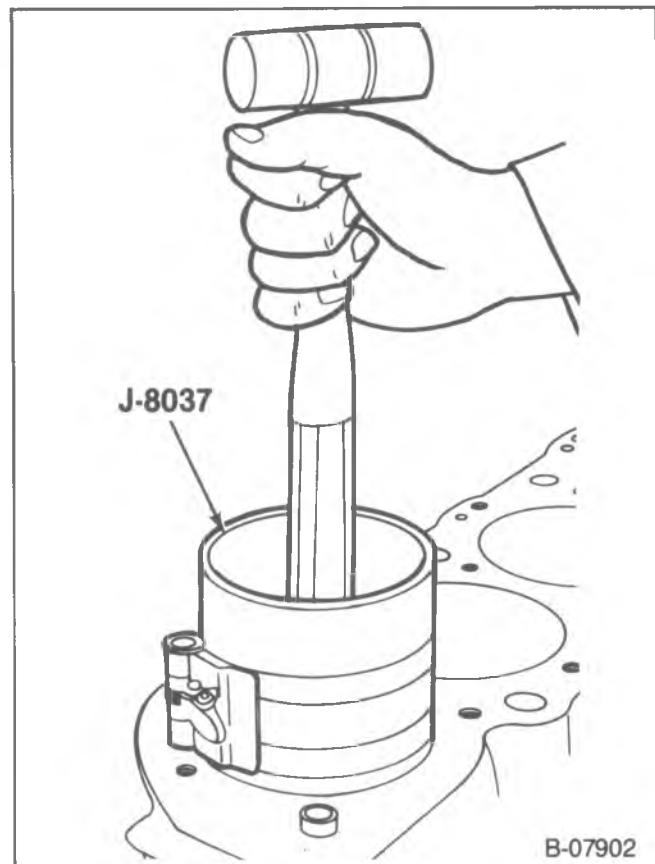
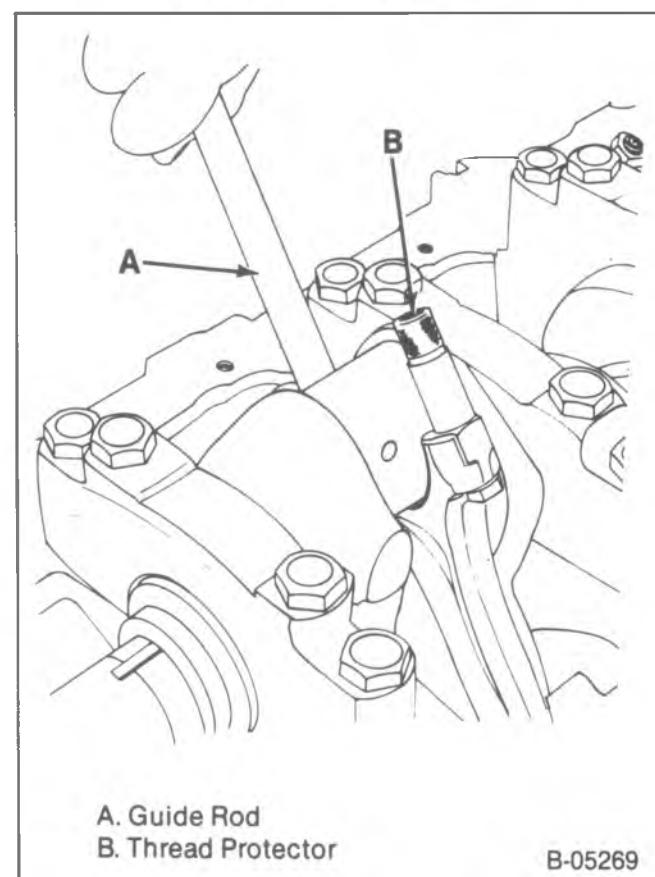

Figure 34—Installing the Piston
Figure 35—Guiding the Connecting Rod
- Without disturbing the ring end gap location, install J-8037 over the piston (figure 34).
- Place the piston in its matching bore. The connecting rod bearing tang slots must be on the side opposite the camshaft. Using light blows with a hammer handle, tap the piston down into its bore (figure 34). At the same time, from beneath the vehicle guide the connecting rod to the crankpin with J-5239 (figure 35). Hold the ring compressor against the block until all rings have entered the cylinder bore.